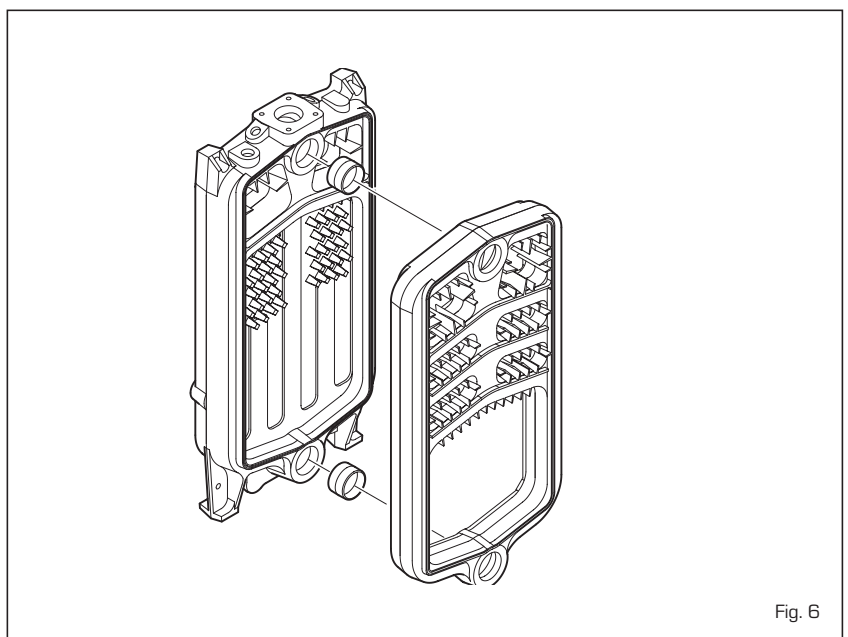

Fig. 6
- install the smoke chamber and the flange as in figure 6/a.